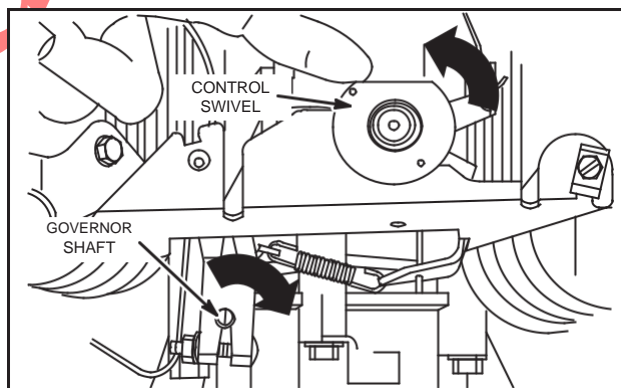

Fig. 20 – Adjust Governor
2. Rotate governor shaft clockwise as far it will go, Fig. 20.